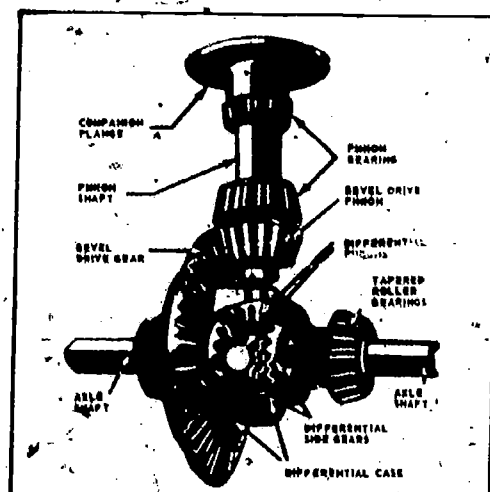

Fig 3-34. Differential with part of differential case cut away.
a. M37 crane-shovel. This vehicle uses a differential similar to that shown in figure 3-34. It is located near the center on the underside of the lower base assembly. The power enters at the vertical propelling shaft (pinion shaft) and rotates each differential propelling shaft (axle shaft). The bevel drive pinion splined to the vertical propelling shaft rotates the ring gear (bevel drive gear). A differential case is splined to the ring gear and rotates with it. Enclosed in the differential case are four differential pinion (spider) gears and two differential side gears. These gears are in mesh with each other, but are free to rotate in the differential case. The differential propelling shafts (one long and one short) are splined to the side gears. If the resistance is equal on both side gears, they do not rotate in the differential case, but turn with the assembly. When there is more resistance on one side gear than on the other, it tries to stop. This will cause the pinions to walk around the gear with the most resistance. The pinions being in mesh with the other side gear cause it to rotate. The difference in the gear ratio will cause it to rotate faster. As soon as the resistance equalizes, the pinions and side gears stop rotating independently and rotate as a unit with the ring gear and differential case.